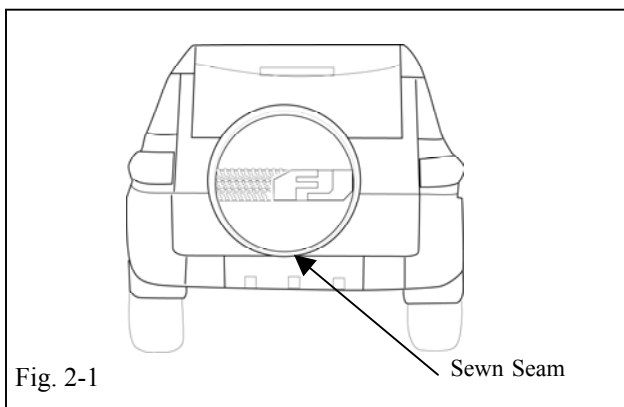

Fig. 2-1
- (b) Align the tire cover to the tire so that the sewn seam is on the bottom. (Fig. 2-1)